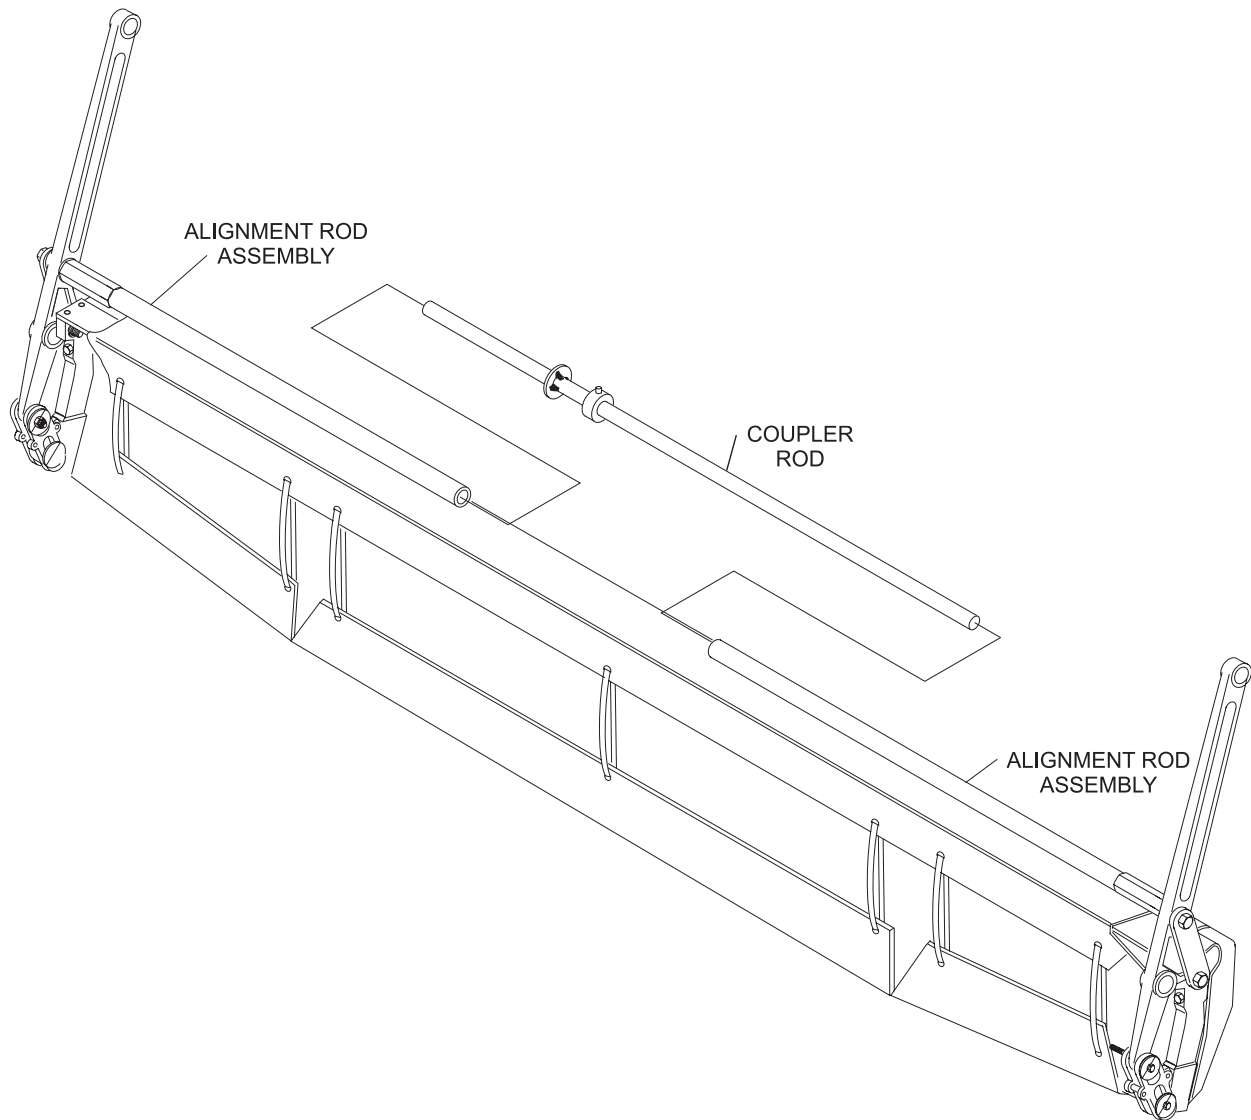

Figure 5
7. Insert the coupler rod into the non-bore end of each of the alignment rods. Refer to Figure 5. This will force the cushion arms to be parallel to each other.